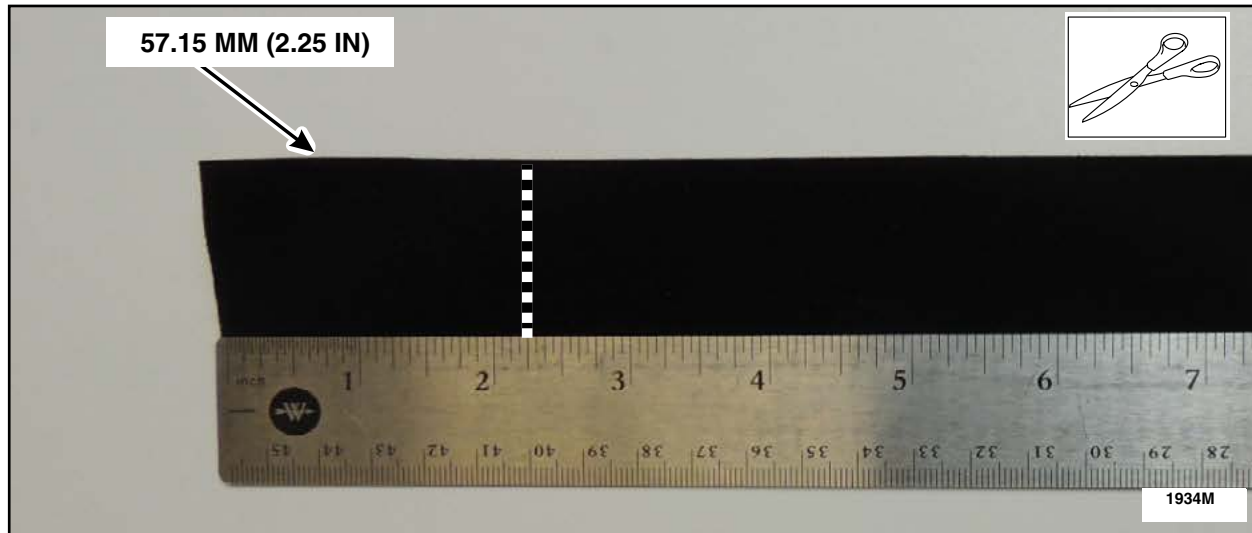

FIGURE 4
6. Measure and cut one piece of flocked tape 57.15 mm (2.25 in) in length. See Figure 4.